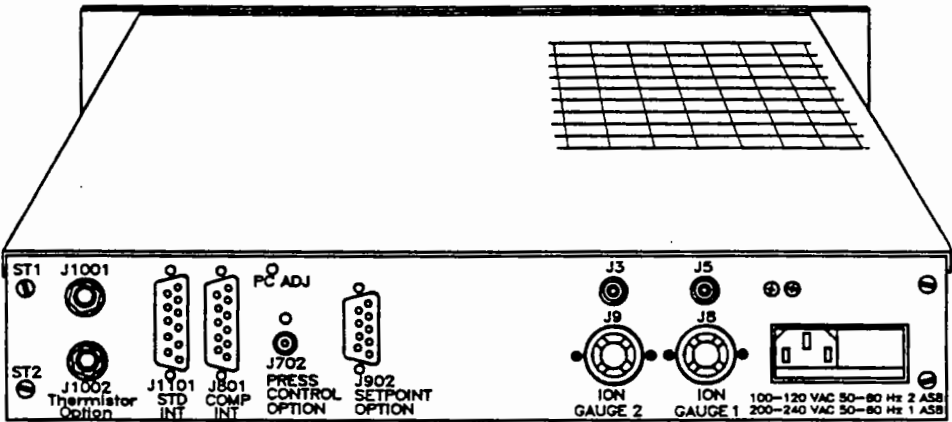

Figure 2-2. DGC III Rear Panel.
4. Loosen the two screws holding the rear panel in place on the left hand side. (The screws are located on the side furthest away from the power connector and are labeled ST1 and ST2 in Figure 2-2.) Loosen the screws as much as possible without actually removing them. This allows easier insertion of the option boards.